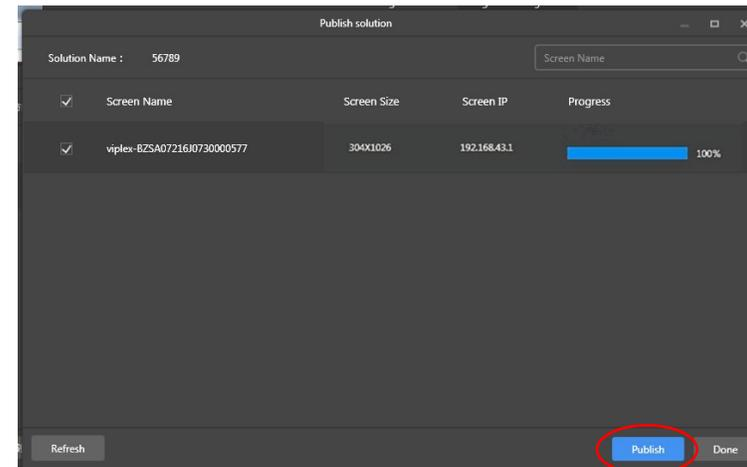

fig 7.11
j. Click [Publish] shown in fig 7.11 to play this playlist.